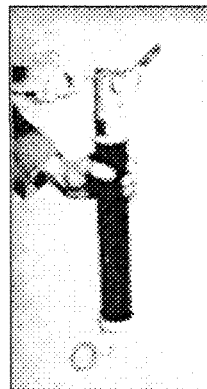
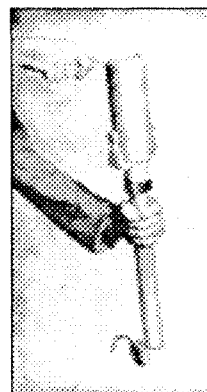

Fig. 1.
Fig. 2.
2. On the outdoor 180-degree fuse, *Fig. 1*, place the larger nib of a hookstick in the hook eye and lift up and out.
1. With refilling tool unscrew retaining ring, *Fig. 1*, or condenser, *Fig. 2*, and refill will slide out of fuse holder.
6. Tighten retaining ring, *Fig. 1*, or condenser, *Fig. 2*, using refilling tool.